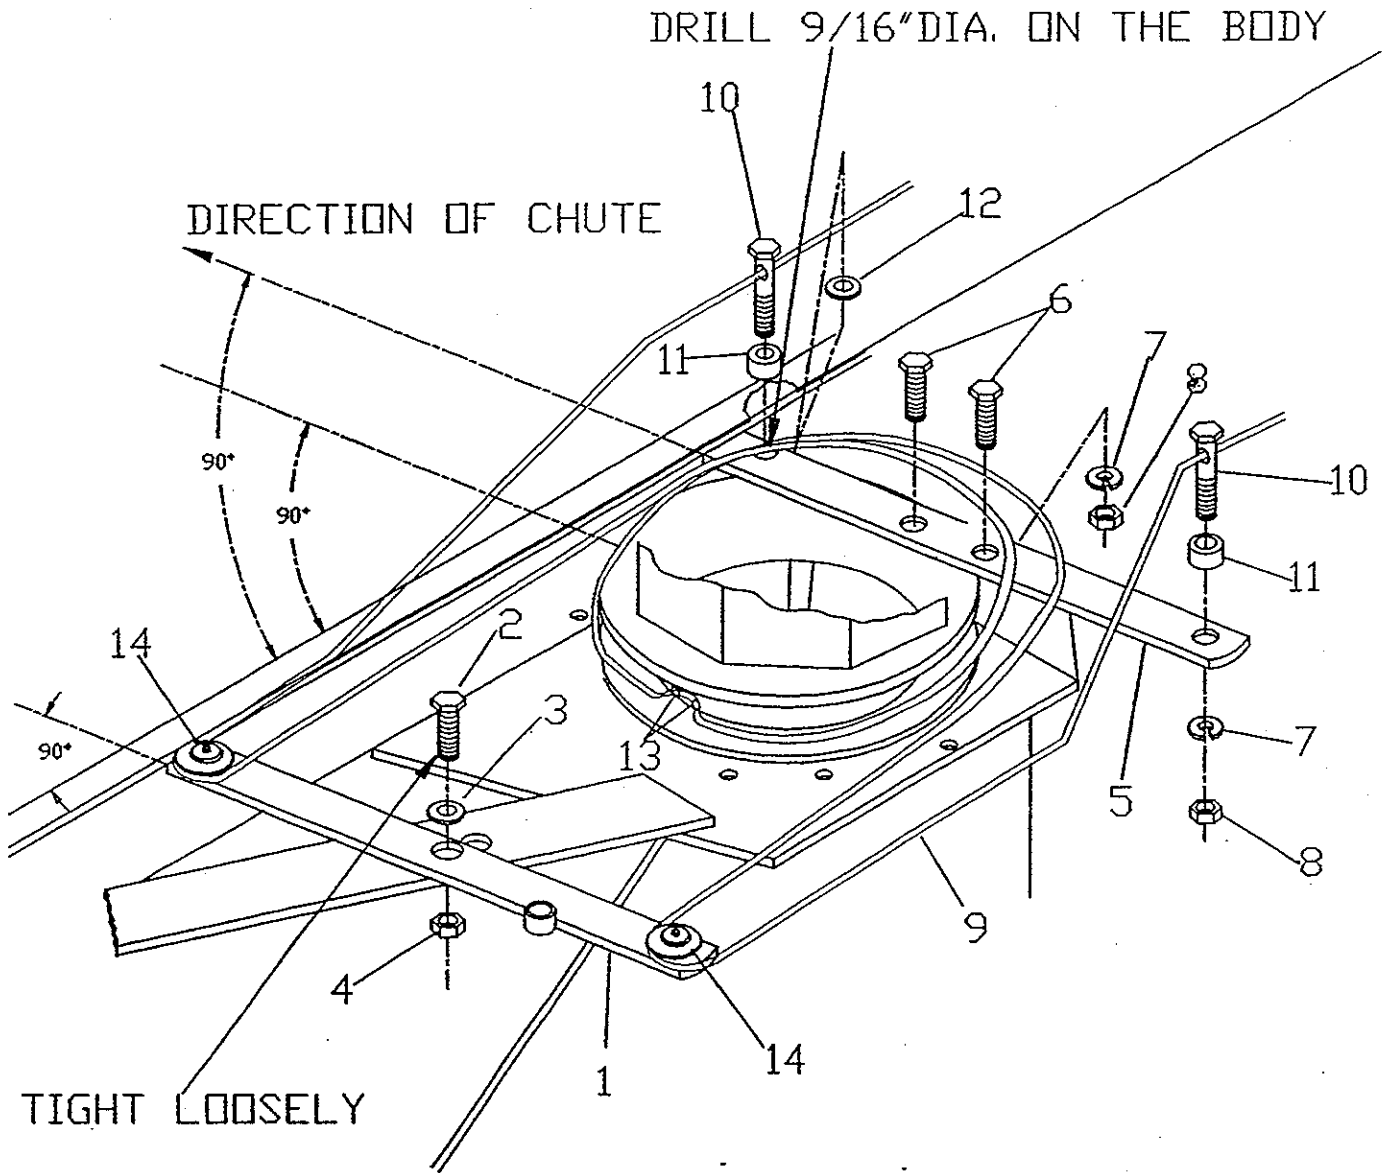

FIGURE 4
1. Install hydraulic rotation arm with pulleys (fig.4,item 1) to the left side of chute. Secure with a 5/8" x 2" bolt (fig.4,item 2), two 11/16" flat washers (above the arm) and nylon locknut (fig.4,item 3-4). Tighten nut to remove end play but still allow arm to move.
2. Install cable holding arm (fig.4,item 5) on top of retaining plate using two 1/2" x 1 3/4" bolts (fig.4,item 6), lockwashers and nuts (fig.4,item 7-8). Tighten securely.
3. Drill a 9/16" dia. hole using the front cable holding arm as a guide. Insert a flat washer (fig.4,item 12) between blower body and arm.
4. Insert one 1/2" x 2" bolt with drilled cable hole (fig.4,item 10) at each end of the cable holding arm (fig.4,item 5) with a 1/2" bushing (fig.4,item 11). Secure loosely with two lockwashers and nuts (fig.4,item 7-8).
5. Attach one end of 3" x 8" hydraulic cylinder to hydraulic rotation arm (fig.4,item 13) and the other end of cylinder on the snowblower cylinder fixation flatbar. Attach hose to remote outlets on tractor. Position arm with pulleys in center of travel.
2. Tape ends of cable (fig.4,item 9) with electrical tape to keep ends from fraying.
3. Pass the cable through the two small holes (fig.4,item 13) on the base of the chute from inside out.
6. Insert the cable ends through special 1/2" x 2" bolts (fig.4,item 10).
8. Tighten the cable at each bolt (fig.4,item 10) and tighten the nut (fig.4,item 8).